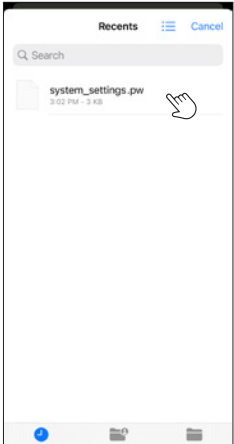

Figure 1
Step 2: Select the System_Settings.pw backup file you wish to restore/import (Figure 1*)